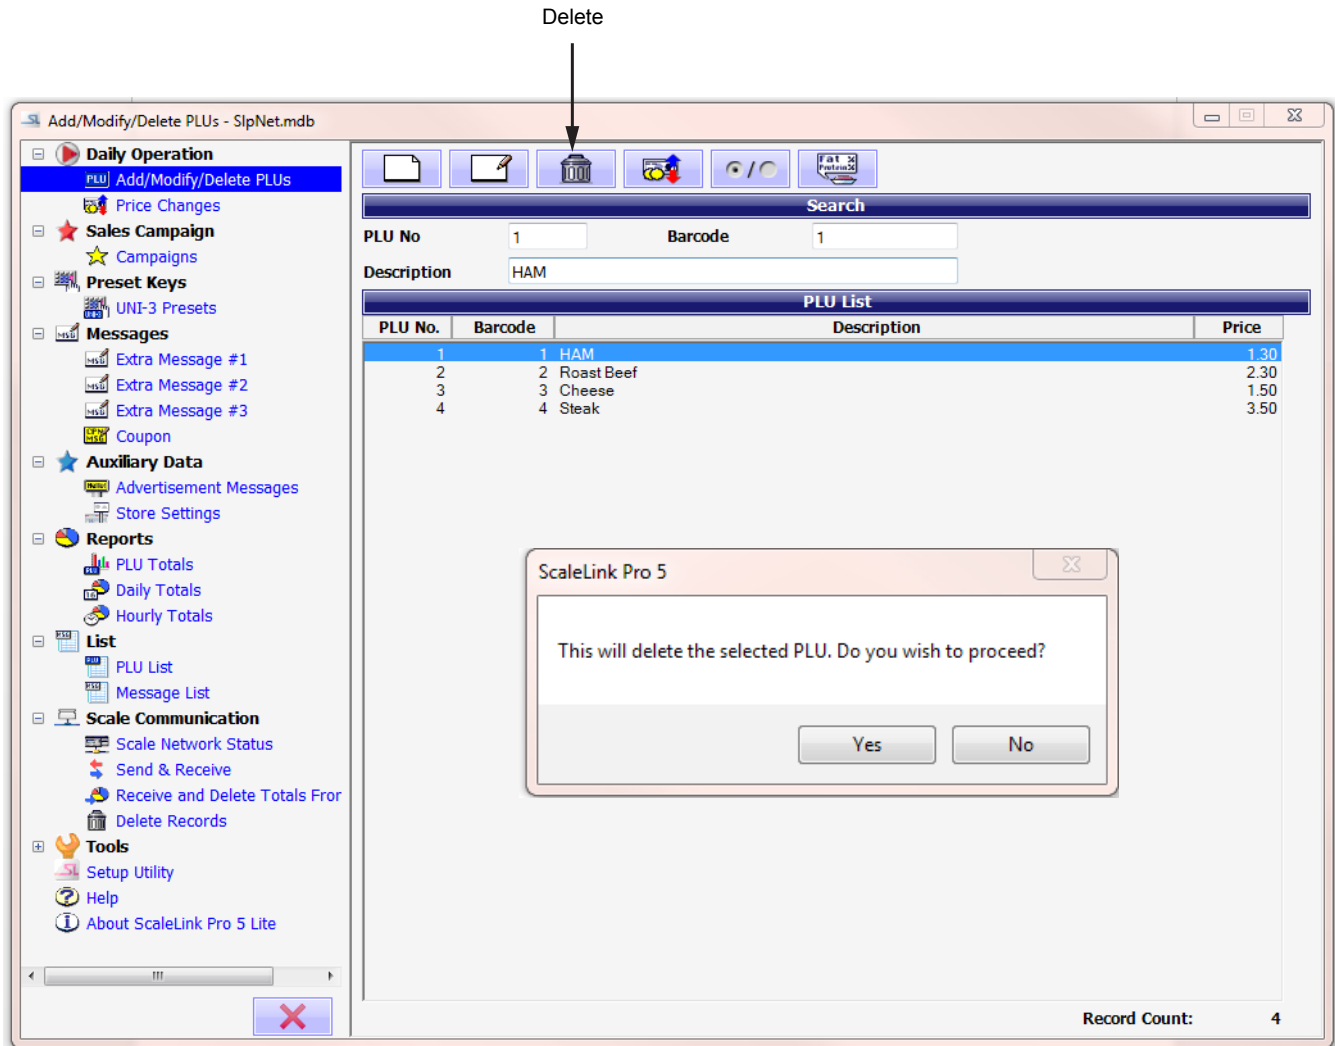

Figure 18-1
2. Select Delete button. A dialog opens asking whether or not to delete the PLU. Screen will display: This will delete the selected PLU. Do you wish to proceed? See Figure 18-1.